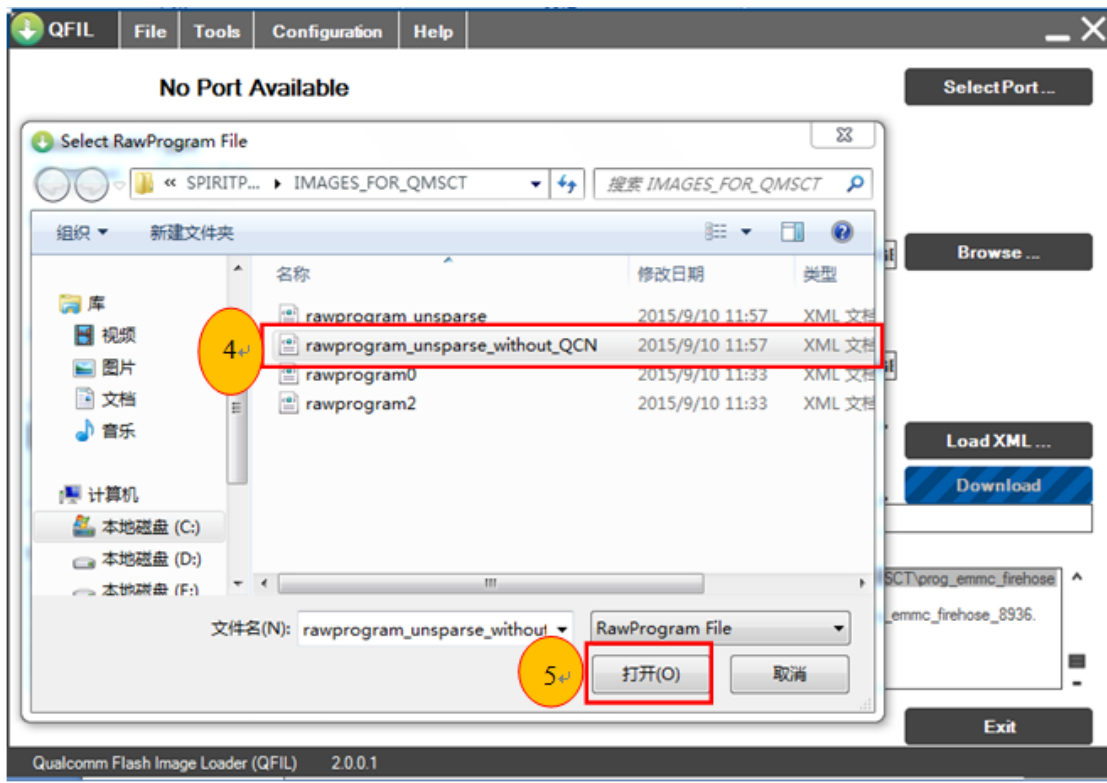

Figure 5.3-3: Choose build file
Step 3: click “Load XML” to choose the build files as Figure 5.3-3